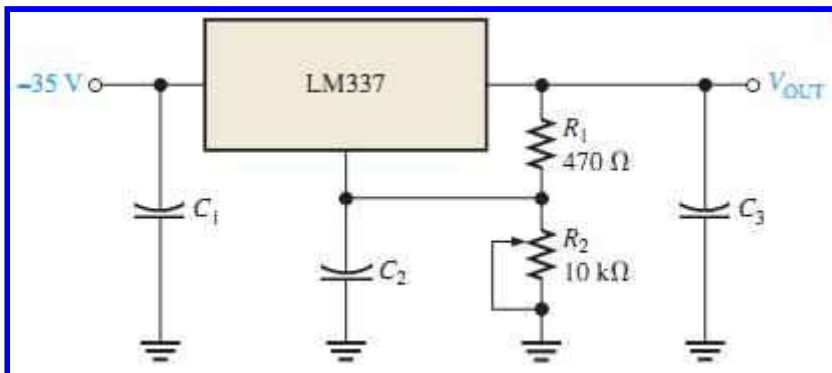

FIG. 52
22. Determine the minimum and maximum output voltages for the circuit in FIG. 52. $I_{ADJ} = 50 \text{ mA}$.